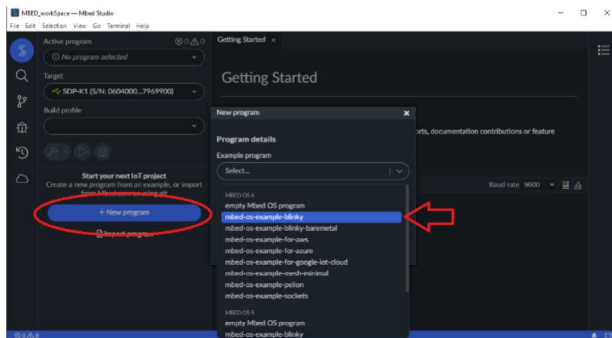

Figure 13. Create MBED Project
2. Create a new project based on the example project, **mbed-os-example-blinky**. Add the **New Program** name, AD74115H, in this example (see Figure 13).